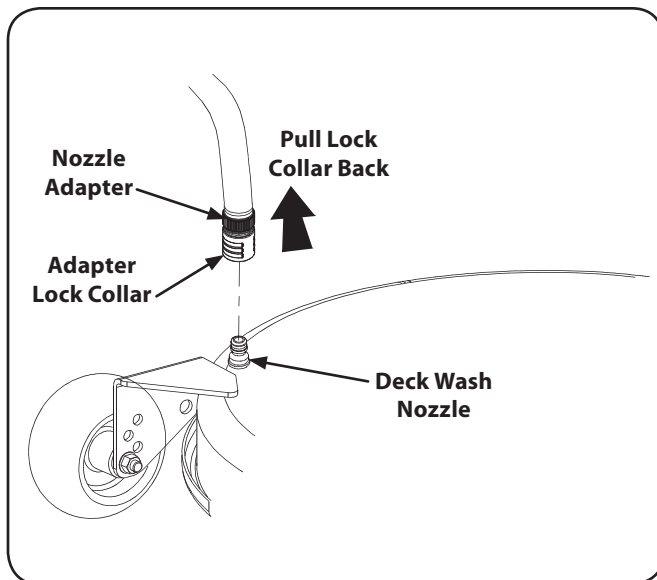

Figure 6-2
3. Pull back the lock collar of the nozzle adapter and push the adapter onto the deck wash nozzle at the left end of the mower deck. Release the lock collar to lock the adapter on the nozzle. Refer to Fig. 6-2.